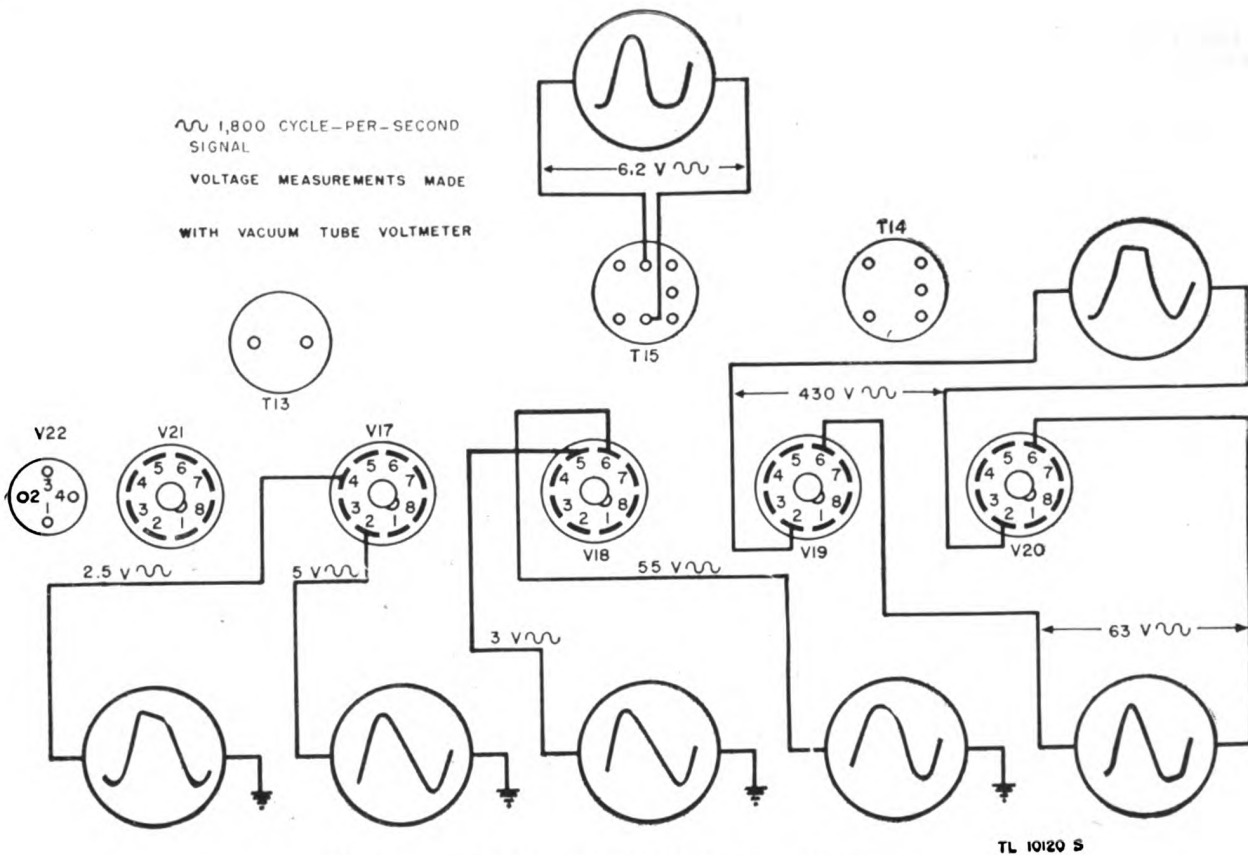

Figure 9. Rectifier Power Supply PE-140, signal tracing chart.
(1) A loose or worn ball X (fig. 41) at the left end of the drive shaft will cause line feed trouble. (See fig. 9.)
(2) Synchronous motors having serial numbers below 400 utilize a hardened steel thrust plate to take the thrust load of the steel ball. Chipping or corrosion of this plate will cause longitudinal motion of the drive shaft.
(3) Ball bearings must be free of tight spots.
(4) The drive shaft must be free to move longitudinally in the bearings.